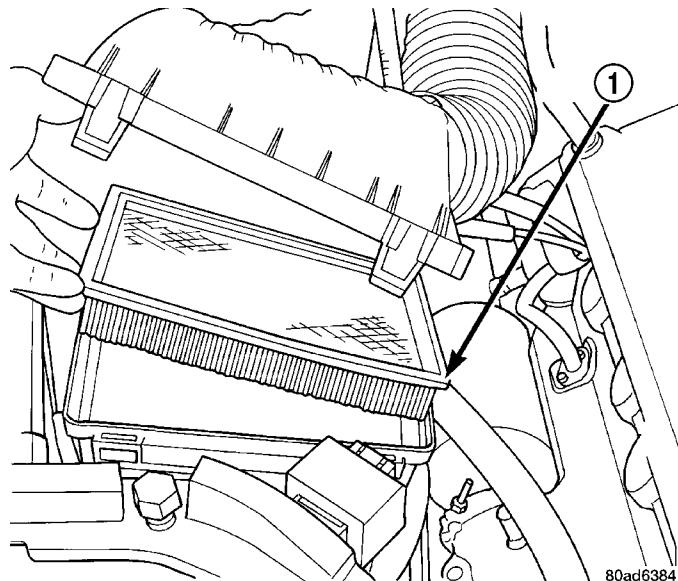

Fig. 9 Air Cleaner Housing and Element
- (1) Remove air cleaner lid. Lift lid off of air cleaner housing.
- (2) Remove filter element (Fig. 9).
- (1) If necessary, clean the inside of the air cleaner housing.
- (2) Install new filter element (Fig. 9).
- (3) Place lid over air cleaner housing.